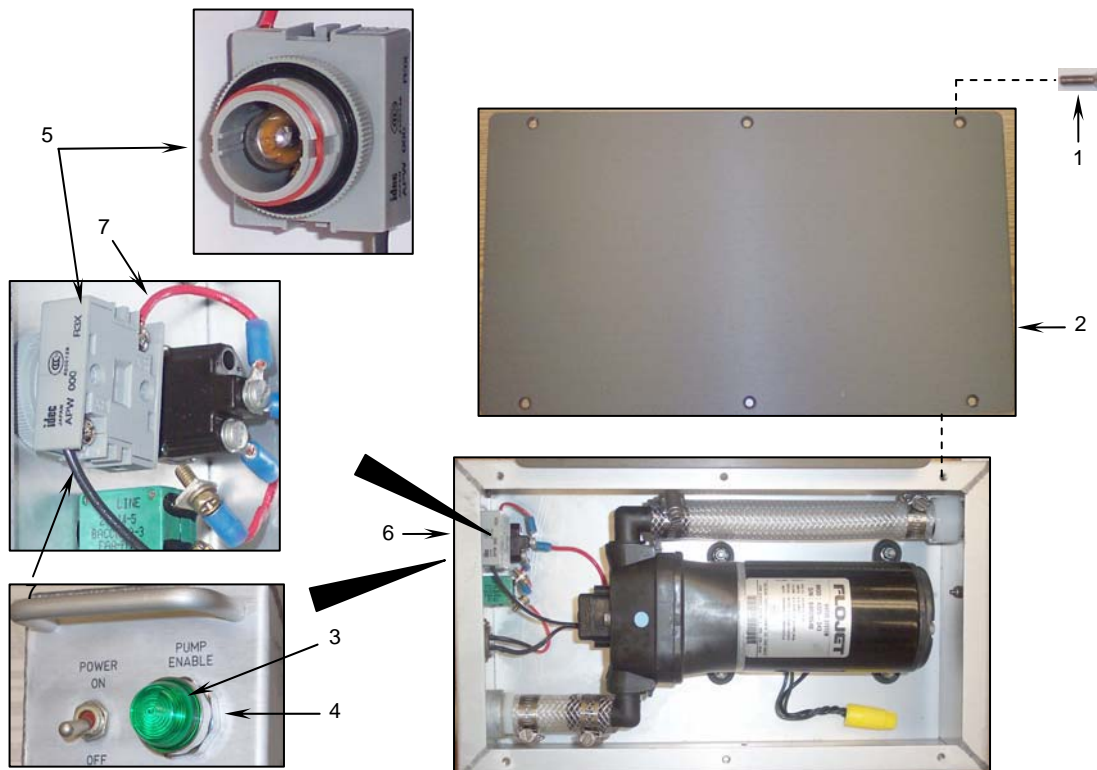

Figure 4. Removing the Sink Fill Pump Assembly Indicator Light Assembly.
- a. Remove the six flat head machine screws (**Figure 4, Item 1**) from the fill pump cover (**Figure 4, Item 2**).
- b. Remove the cover (**Figure 4, Item 2**).
- c. Using your fingers, unscrew and remove the green lens (**Figure 4, Item 3**) from the front of the indicator light assembly.
- d. Remove the ring nut (**Figure 4, Item 4**) from the front of the indicator light assembly.
- e. Pull the indicator light assembly (**Figure 4, Item 5**) out of the fill pump enclosure (**Figure 4, Item 6**).
- f. Disconnect the two wires (**Figure 4, Item 7**) from the terminals at the back of the indicator light assembly.